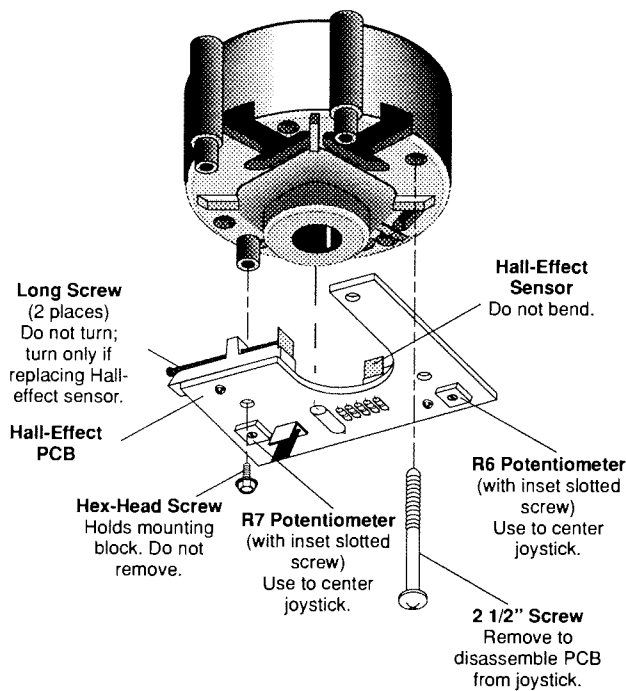

Figure 3-3 Parts of the Hall-Effect PCB
See Figure 3-3 if you are not sure which screws to turn or what the Hall-effect sensors look like.
The R7 potentiometer controls the horizontal value and the R6 potentiometer controls the vertical value. Turn the inset slotted screws on the potentiometers so the horizontal and vertical set-up values are equal or very close to 80. (See Figure 3-3.) Turning the screw clockwise increases the value.
Adjust only the potentiometers. Do not move the long screws on the PCB. If you turn the long screws, you can destroy the Hall-effect sensors. See Figure 3-3 if you are not sure which screws to turn.
Do not turn the long screws on the bottom of the PCB that touch the Hall-effect sensors. See Figure 3-3 if you are not sure which screws to turn.
17. Before you install the PCB on the bottom of the positioner plate, check the two Hall-effect sensors to make sure they are not bent. (See Figure 3-3.) If they are bent, replace the PCB or the Hall-effect sensor.